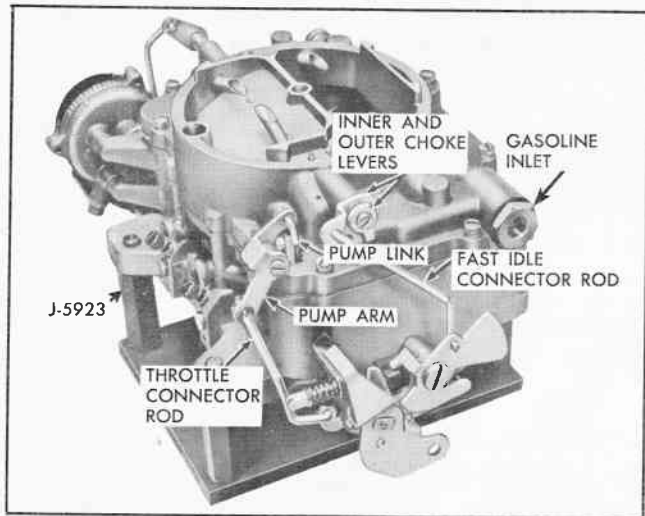

Fig. 7 Carter AFB Carburetor
1. Place carburetor on stand J-5923 and remove gasoline inlet strainer nut, gasket and inlet screen (Fig. 7).
2. Remove throttle connector rod and anti-rattle spring (Fig. 7).
3. Remove fast idle connector rod at upper end (Fig. 7).
7. Remove choke shaft lever retainer screw, inner and outer choke shaft levers and washers from end of choke shaft (Fig. 7).
11. Remove pump arm and link and pump plunger assembly (Fig. 7).